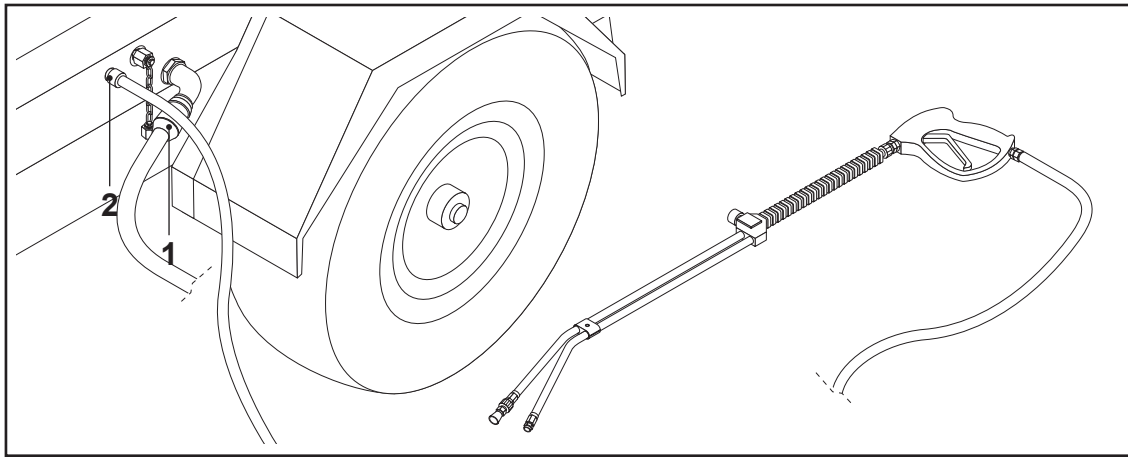

FIG. 51
- the drawing point is at least 50 cm above the coupling (FIG. 51-REF. 1)
- Connect the nozzle together with its delivery hose to the coupling (FIG. 51-REF. 2).